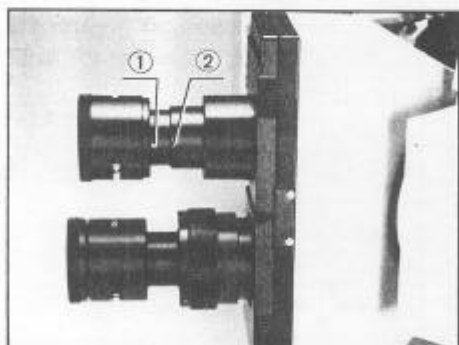

Fig. 15
Insert the eyepiece WHK10X-H (focusable with helicoid) into the right eyepiece sleeve of the binocular tube, aligning the locating pin ① to the locating groove ②. (Fig. 15)